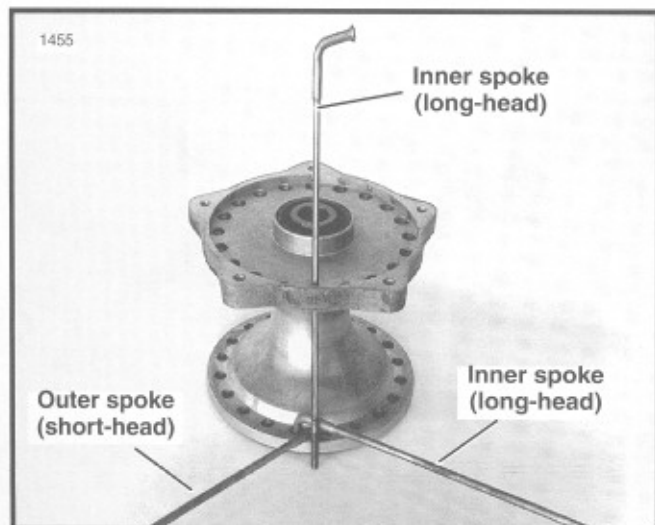

Figure 2-24. Lacing 19-in. Wheel Hub
3. See Figure 2-24. Place hub on bench either side up. Insert one outer spoke (short-head) into any bottom flange hole and swing it clockwise. Insert an inner spoke (long-head) in the next hole to the left of the outer spoke. Swing the inner spoke counterclockwise over the outer spoke.